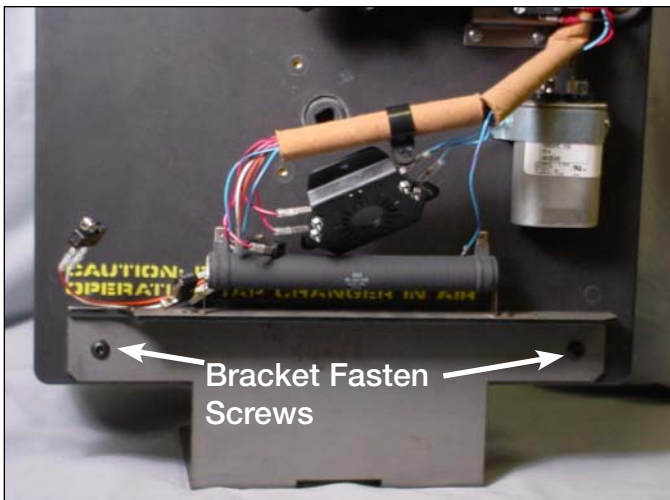

Figure 13.
6. Using a 5/32 Allen wrench loosen and remove the two pan head Allen screws from the tap changer-mounting bracket. See Figure 13.